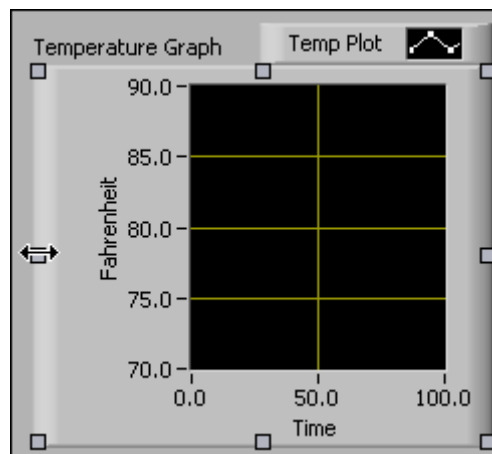

Figure 2. Resize Waveform Graph
- ☐ Move the cursor to the middle left resizing node until the cursor changes to a double arrow, as shown in Figure 2.